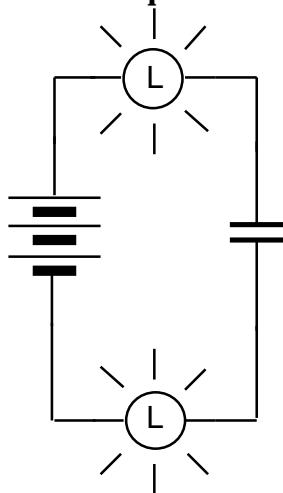
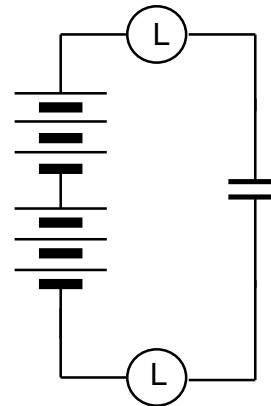

Figure 4.5a
Figure 4.5c
Charge a blue capacitor through two long bulbs, using a 3-cell battery as shown in Figure 4.5a. Use a compass under one of the wires to monitor direction of flow.
1. Draw arrows on Figure 4.5a to show charge flow in all parts of the circuit while the bulbs are lit. Don't use special arrow widths -- just show directions.
4. Did the bulbs light? If they did, draw an arrow on Figure 4.5c to show the direction charge was moving everywhere during the second bulb lighting.
The teacher will now charge a capacitor with one battery pack as in Figure 4.5a, then add a second pack as in Figure 4.5c, and then add a third battery pack to the circuit.
6. Using the connected syringes, air provides a model for explaining the observed electrical behavior in the circuit of Figure 4.5c? What are a) the advantages, and b) the limitations of this model?